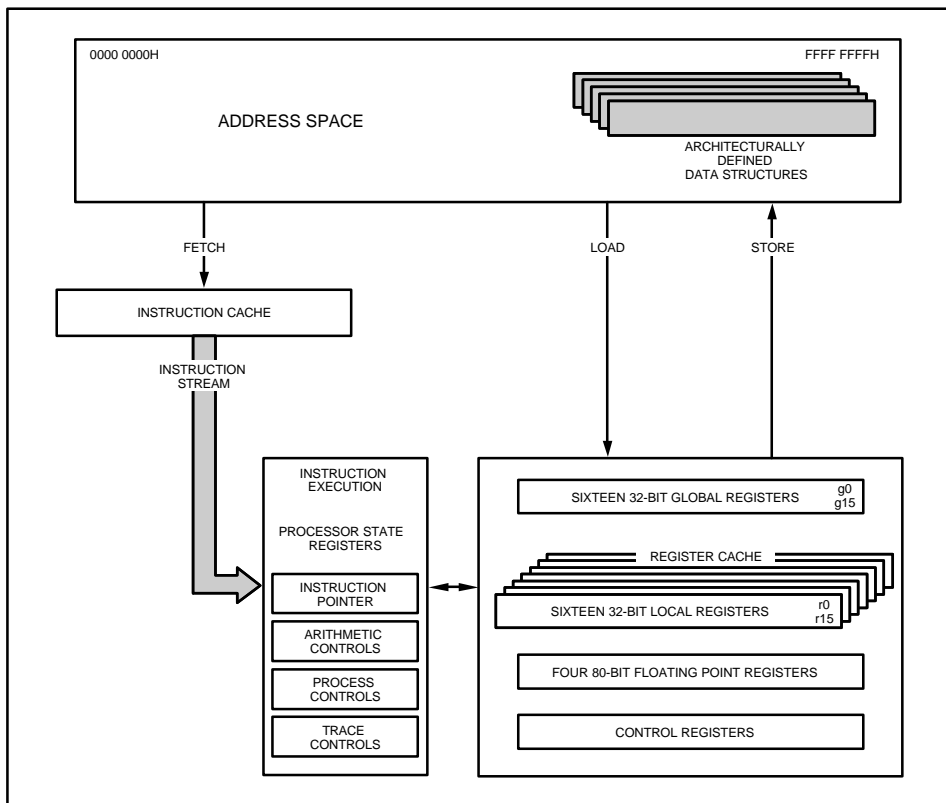

Figure 2. 80960KB Programming Environment
- 1. Large Register Set.** Having a large number of registers reduces the number of times that a processor needs to access memory. Modern compilers can take advantage of this feature to optimize execution speed. For maximum flexibility, the 80960KB provides thirty-two 32-bit registers and four 80-bit floating point registers. (See Figure 2.)